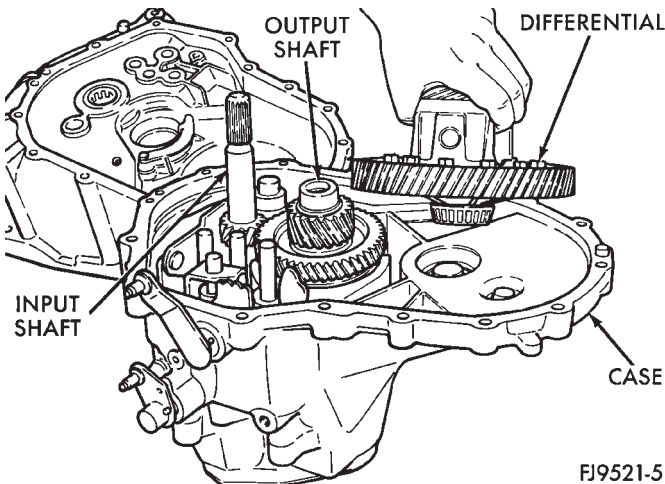

Fig. 43 Differential Assembly Removal
(5) Remove output shaft roller bearing from output shaft.
(6) Remove differential assembly (Fig. 43).